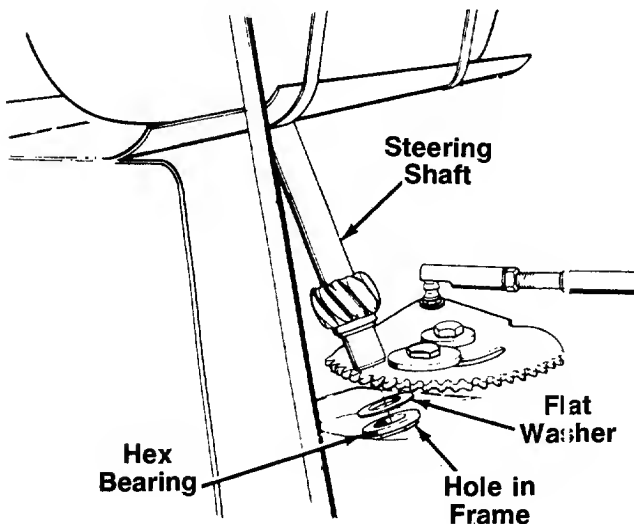

FIGURE 5.
2. Insert the hex bearing into the hole in the frame shown in figure 5.